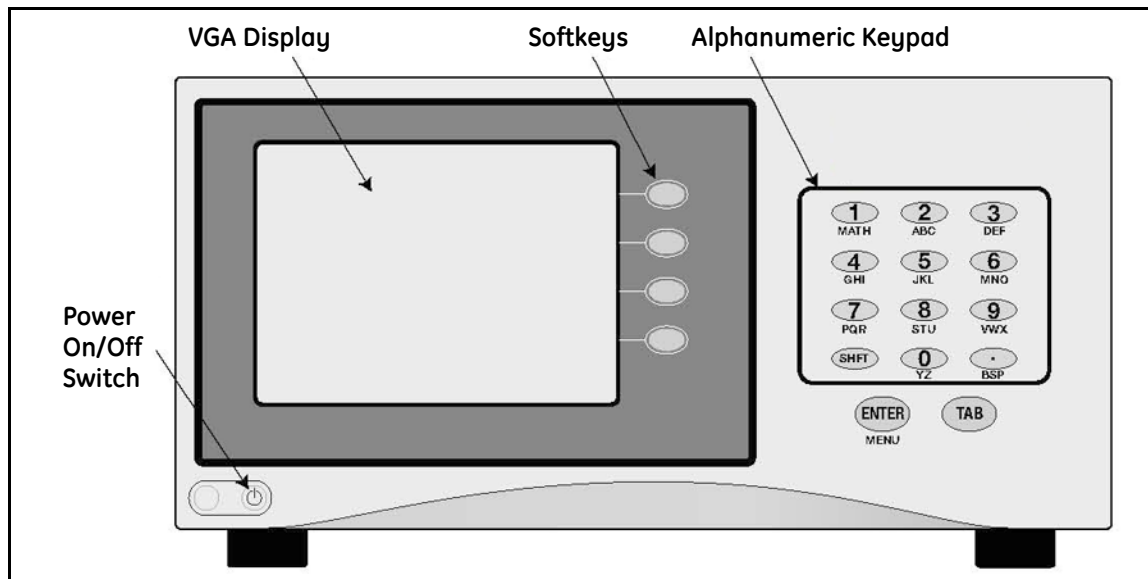

Figure 1: Optica Benchtop Version with VGA Display
The Optica front panel is shown in *Figure 1* below. The panel includes: a display, an alphanumeric keypad for data entry, ENTER and TAB keys, and four softkeys to the right of the display screen.
- A high-resolution, full-color, liquid crystal display (LCD) with data graphing and on-screen programming capability (referred to as the “VGA” unit). See *Figure 1* below.